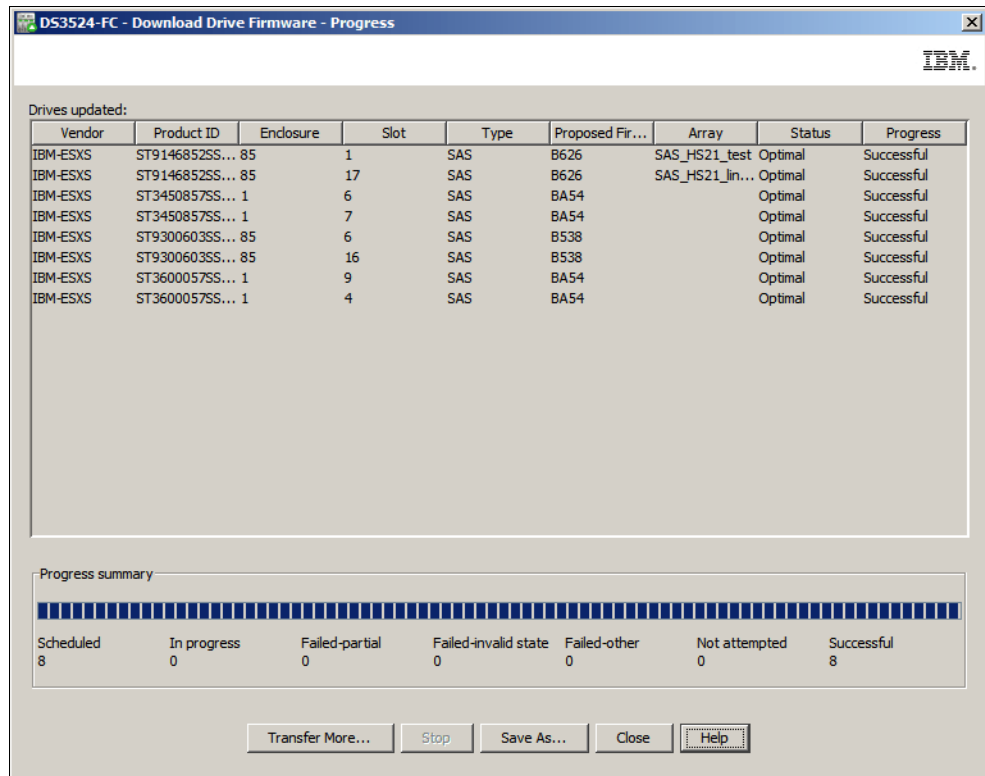

Figure 14-48 Drive update complete
- After the update completes, a summary window opens (Figure 14-48). If you want to update more drives, click **Transfer More** to select the compatible packages. Otherwise, click **Close** to exit the drive update window.